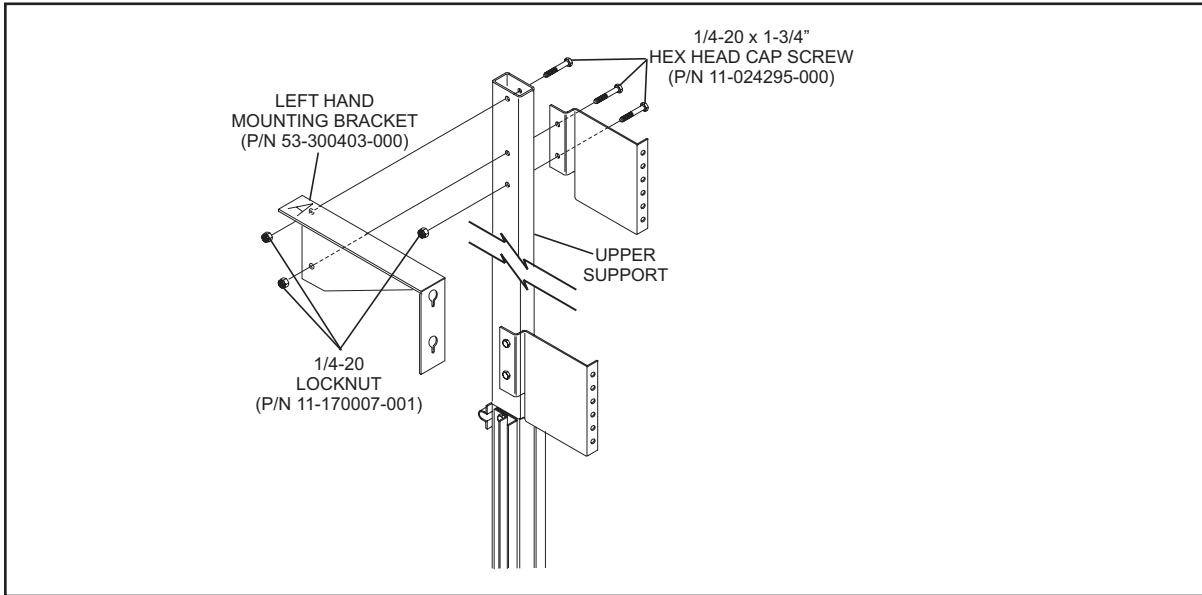

Figure 28
1. Install the first support assembly “A” projection screen mounting bracket and upper graphic standoff. Refer to *Figure 28*